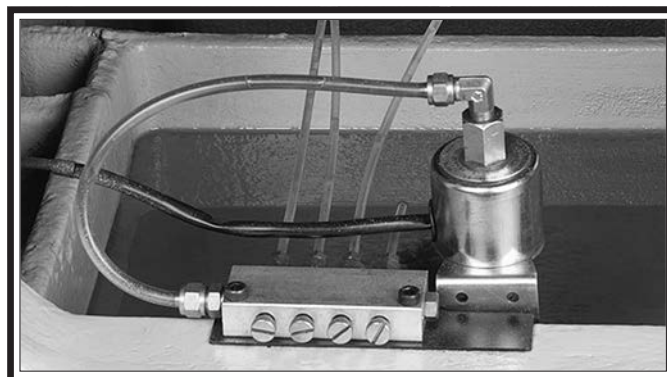

Figure 44. Lubrication pump and reservoir.
2. Remove the screws and the left-side cabinet access plate, and fill the oil reservoir or replace the oil if it is dirty (see **Figure 44**).